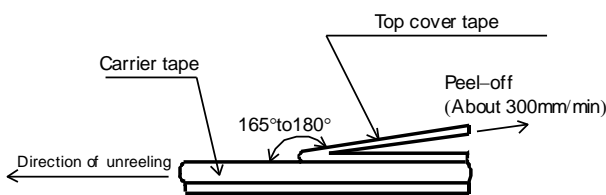
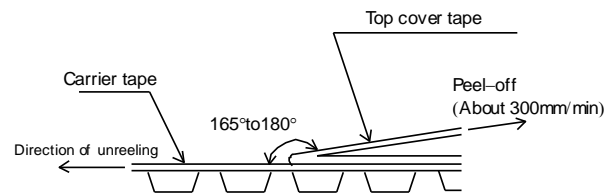

Figure-8
Figure-9
- 5). The peel strength of the top cover tape shall be within 0.1N to 0.5N on the test method as shown in the following FCR1/16,1/10,1/8: Figure-8, FCR1/4, 1/2, 1: Figure-9.